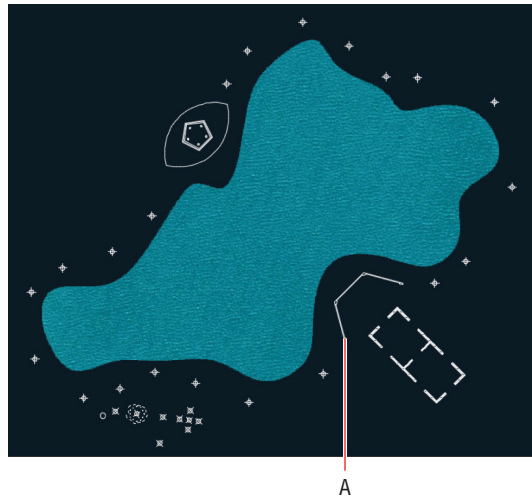

FIGURE 5.1 Initial landscape plan
Begin by opening the file `Ex05.1-start.dwg` from this chapter's companion files, available for download from the book's web page at www.sybex.com/go/autocad2018essentials. Figure 5.1 shows the landscape plan.
1. Click the Polyline tool on the Draw panel of the ribbon. Click the first point, at point A, shown in Figure 5.1. Type A (for Arc) and press Enter.